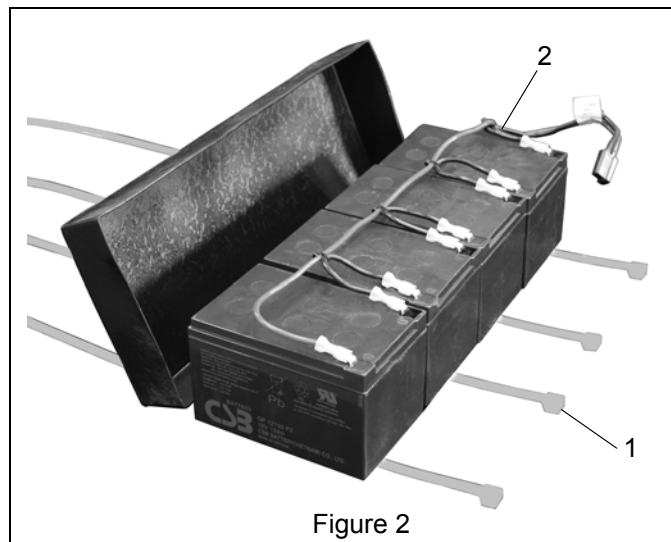

Figure 2
2. Place one zip tie (item 1) under each battery. Ensure that zip ties face in the same direction.
3. Connect battery harness (item 2) to battery. See Figure 2.